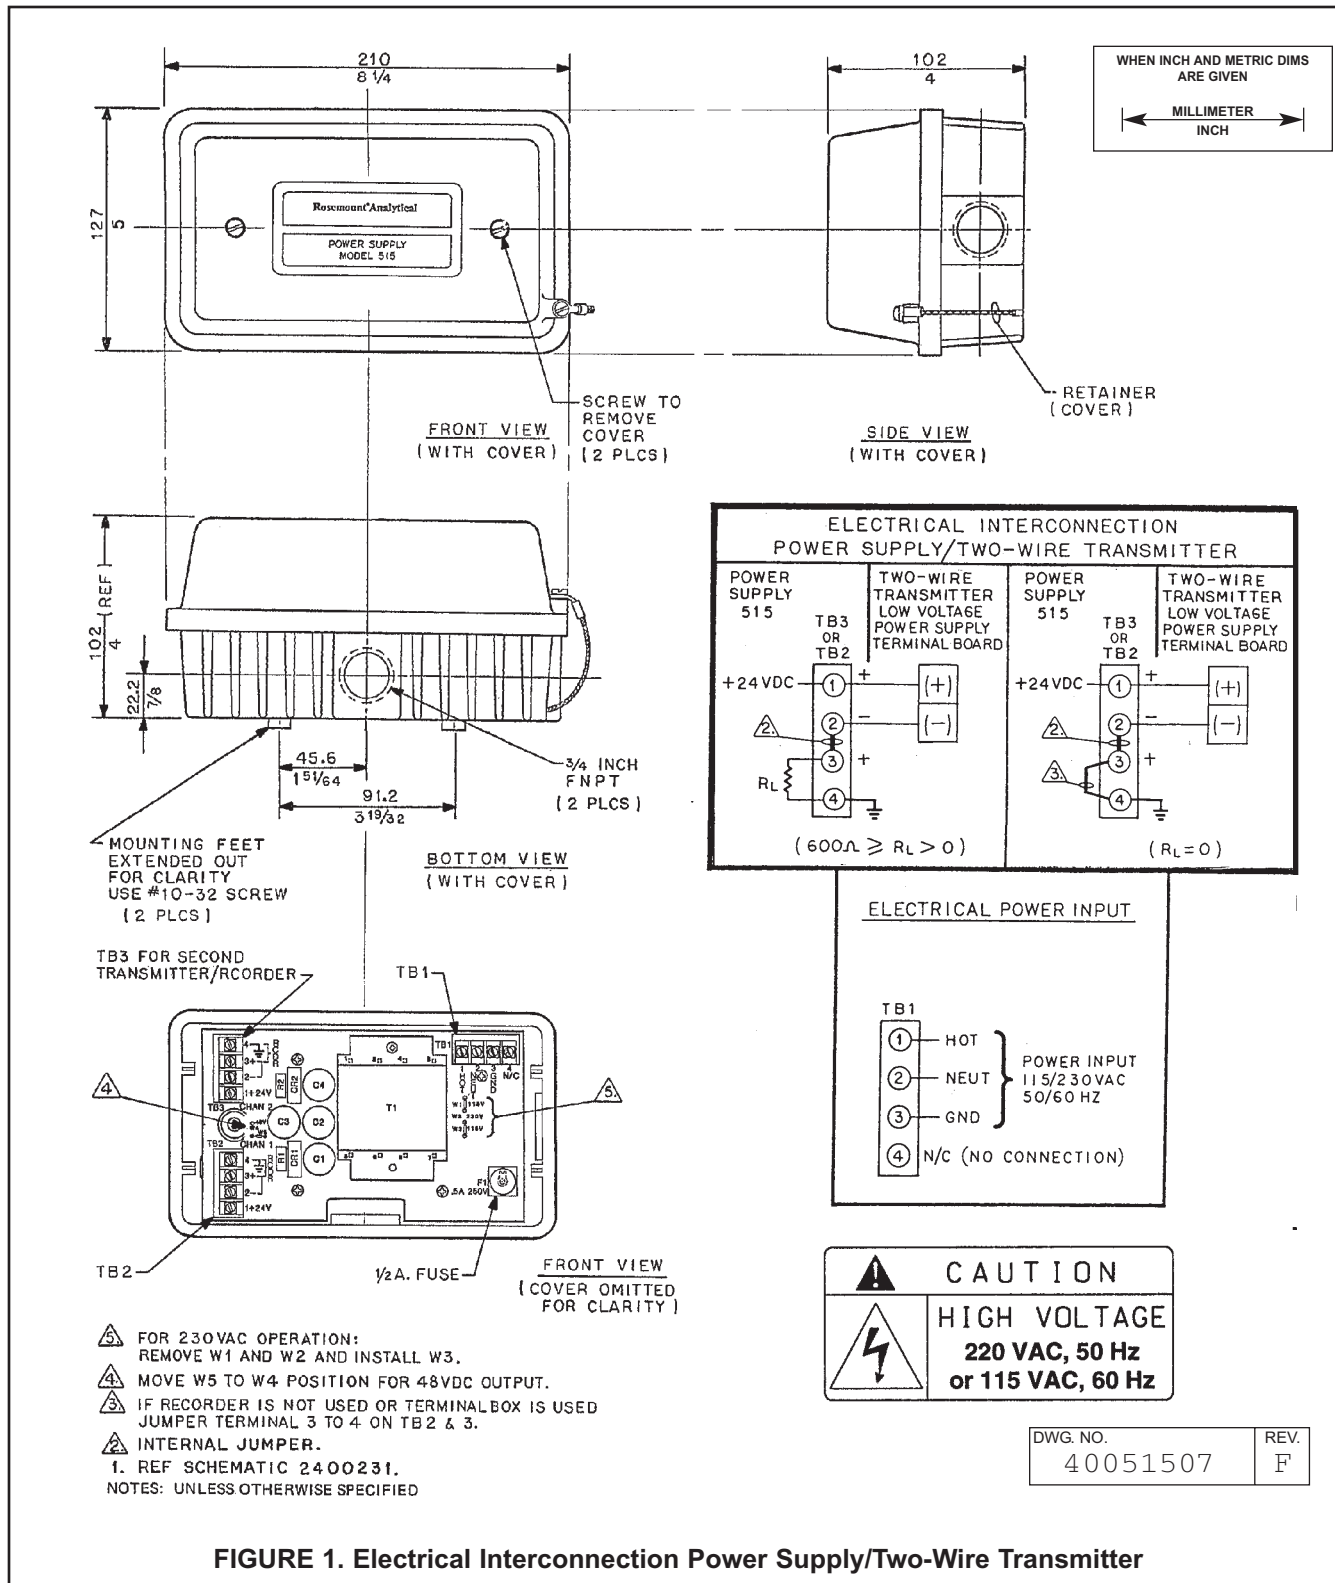

FIGURE 1. Electrical Interconnection Power Supply/Two-Wire Transmitter
1.2 FUNCTIONAL DESCRIPTION. The Model 515 Power Supply is a source of + 24 Vdc power for two-wire transmitters. The power supply contains two separate power sources and will drive the transmitters and provide output signals to most commercial electronic recorders, receivers, or central processing units. The two output sections of the power supply are completely isolated from each other by virtue of the dual secondary windings of the power transformer. Two transmitters can be powered with one model 515. TB1 (Figure 4) is the line power input. TB2 and TB3 can each provide the 24Vdc from pins 1 and 2. If the transmitter is the only device connector, pins 3 and 4 need to be jumpered. If a recorder is to be simulated, a 600 ohm resistor needs to connect pin 3 to pin 4 (see insert in Figure 1). If the transmitter(s) will be used in an AMS/HART environment, a 250 ohm resistor needs to be connected across pins 3 and 4.
2.3 ELECTRICAL INSTALLATION. Refer to Figure 1 and connect the power supply wiring as indicated. A junction box (P/N 2002188) is available for powering more than two transmitters from the power supply. Refer to Figure 5 for wiring instructions
For best EMI/RFI protection, it is recommended that the power supply/signal cable be twisted pairs. The cable should also be shielded and grounded. To ground the power supply/signal cable, connect the cable's outer shield to earth ground via Terminal 3 of TB1, Figure 1.